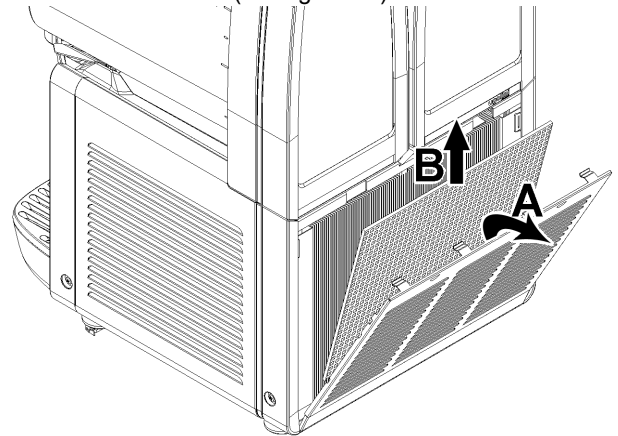

figure 21
- 2 **Every month:** remove the dust from the condenser filter on the back of the machine (see figure 21).